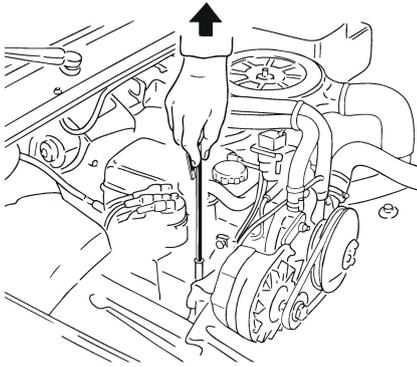

Fig.2
2. FIG.2 remove engine oil case